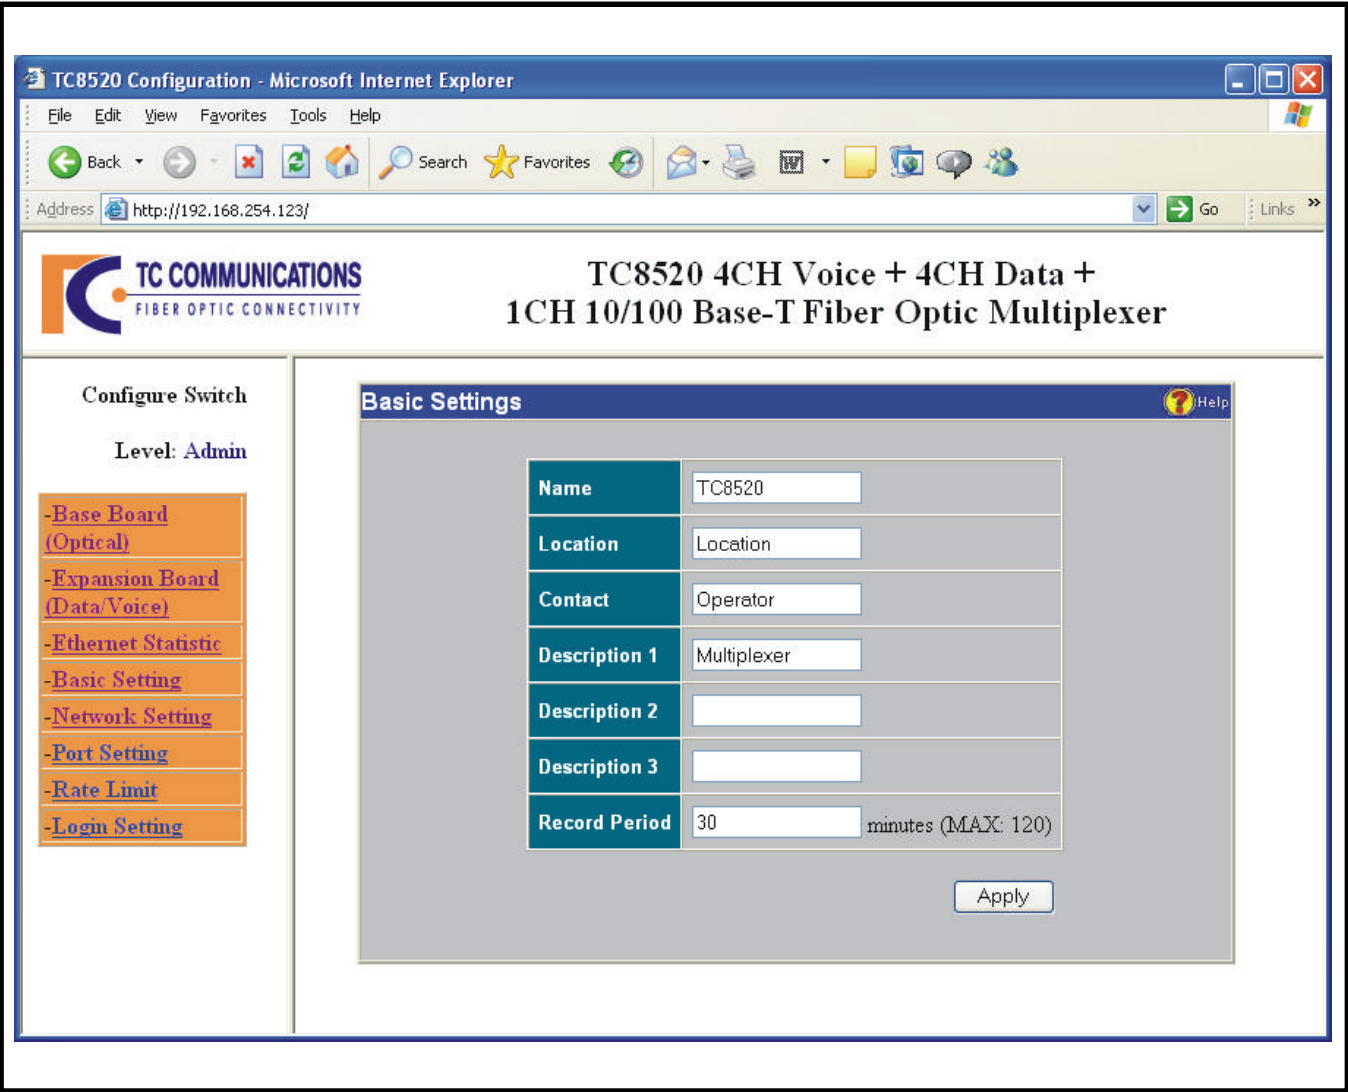

Figure 18. TC8520's Basic Configuration
2. On the center of the window you will see "History counter record every "30" minute(s)." You can set up your own preferred time intervals specified in the Basic Configuration window figure 18, on page 30.
Click the "Basic Setting" link on the left side of the page and you will see the window as in figure 18, below and you can begin the configurations. You may change the values of the fields as you like.